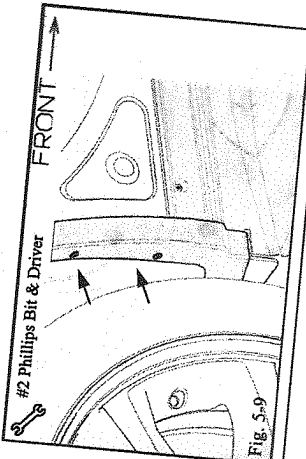

Fig. 5-9
(n) Re-install the two (2) screws at the rear fender molding (Fig. 5-9).